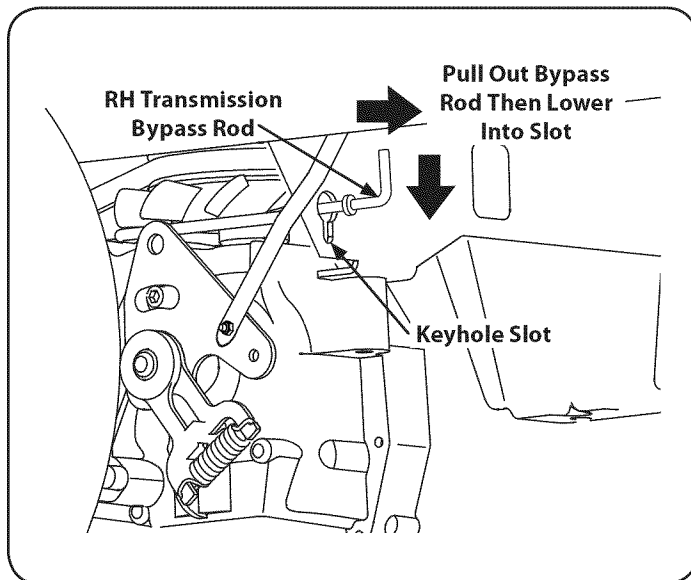

Figure 32
1. Locate the hydrostatic bypass rod in the rear of the riding mower. See Figure 32.
1. If not already loose, loosen the flange lock nut and rotate the control lever either forward or rearward to the desired position. See Figure 32.